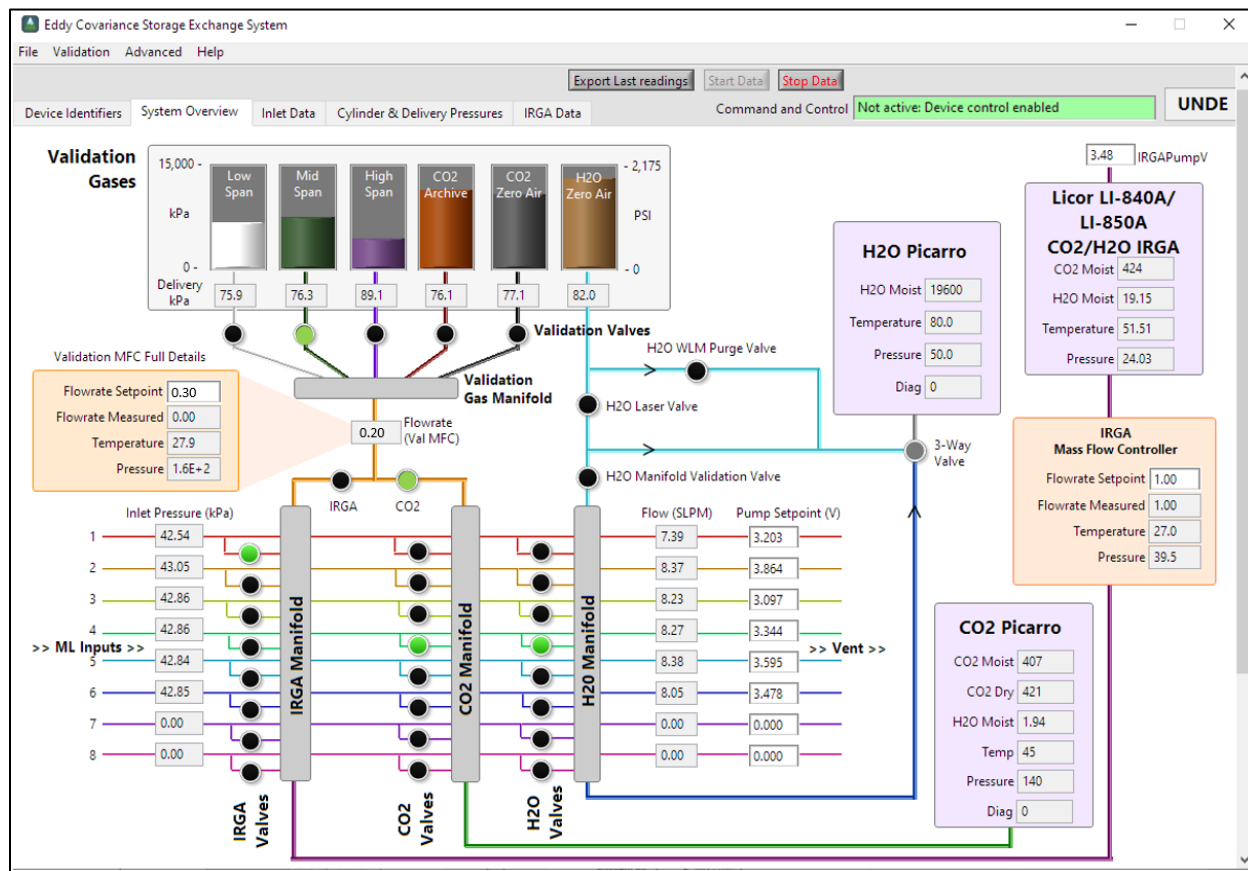

Figure 18. Set the validation MFC set point to 0.5 SLPM with gas flowing at 0.2 SLPM via the IS Control and Monitoring Suite.
14. For the ECSE system, with CNC off, set the validation MFC to 0.3 SLPM and open the CO₂ validation valve via the IS Control and Monitoring Suite (**Figure 18**). Adjust the regulator's pressure adjusting knob (turn clockwise) until the delivery pressure reads 70 kPa, then proceed to Step 16.